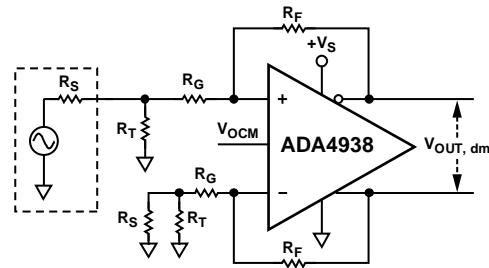

Figure 60. ADA4938-x Configured for Unbalanced (Single-Ended) Input
For an unbalanced, single-ended input signal (see Figure 60), the input impedance is
**Table 11. Single-Ended Ground-Referenced Input, DC-Coupled,  $R_S = 50$   $\Omega$ ; See Figure 60**